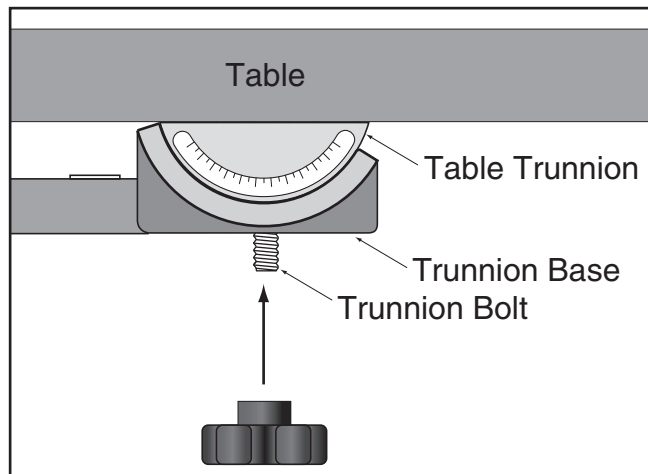

Figure 15. Installing the table onto the trunnion base.
11. Rotate the table so that the table slot faces to the right, then insert the table bolts through the mounting holes in the trunnion base, as shown in **Figure 15**.